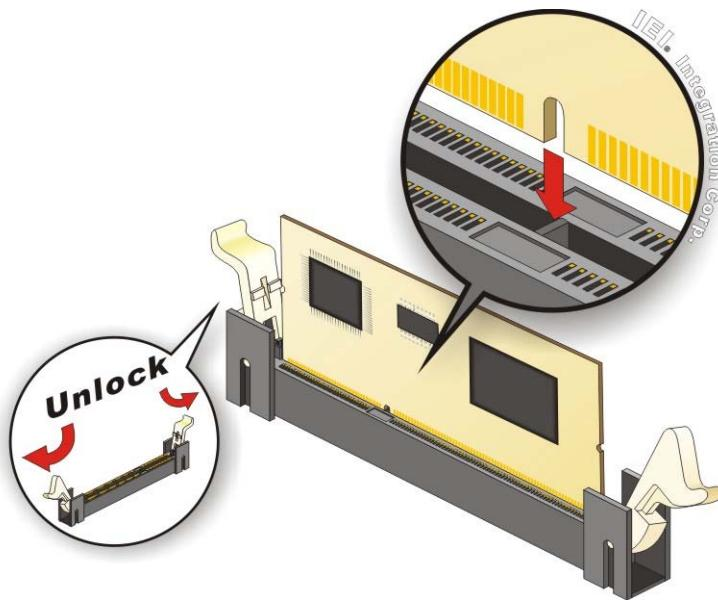

Figure 4-2: iRIS Module Installation
To install the iRIS-2400 module, please follow the steps below and refer to **Figure 4-2**.
**Step 2:** Open the socket handles. Open the two handles outwards as far as they can. See **Figure 4-2**.
**Step 3:** Align the iRIS-2400 module with the socket. Align the iRIS-2400 module so the notch on the module lines up with the notch on the socket. See **Figure 4-2**.
**Step 4:** Insert the iRIS-2400 module. Once aligned, press down until the iRIS-2400 module is properly seated. Clip the two handles into place. See **Figure 4-2**.